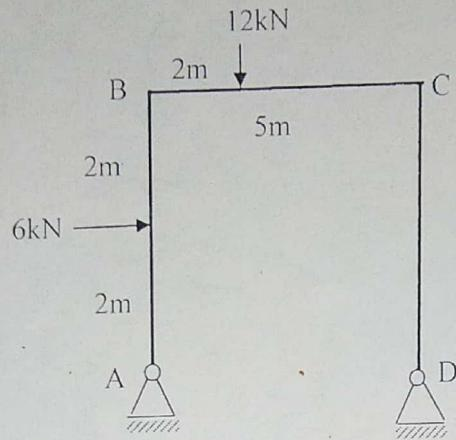

Figure Q. 4(a)
b) Analysis the portal frame as shown in figure Q. 4(a). The flexural rigidity EI is constant throughout